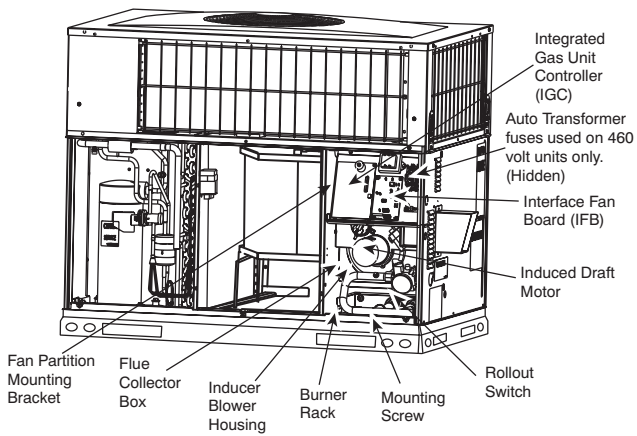

Fig. 18 - Blower Housing and Flue Collector Box
2. Remove the 11 screws holding the flue collector box cover (See Fig. 18) to the heat exchanger assembly. Inspect the heat exchangers.
Unit is equipped with a direct spark ignition 100 percent lockout system. Ignition module (IGC) is located in the control box (See Fig. 18). Module contains a self-diagnostic LED. During servicing, refer to label diagram or Table 6 in these instructions for LED interpretation.
5. Remove fan partition mounting bracket (2 screws located on the left side of control compartment on the fan partition panel). Slide bracket forward, bottom first, to remove. (See Fig. 18.)
7. Remove the mounting screw that attaches the burner rack to the unit base (See Fig. 18).
8. Partially slide the burner rack out of the unit (see Fig. 18 and 21). Remove ignitor and sensor wires at the burner assembly. Remove wires to rollout switch.
9. Slide the burner rack out of the unit (See Fig. 18 and 21).